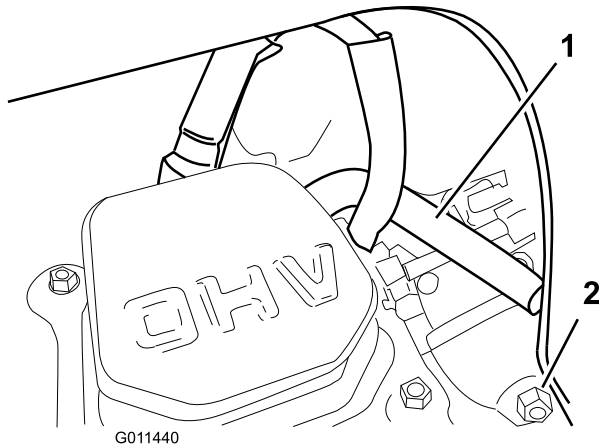

Figure 36
Note: Ensure that the breather tube is routed above the spark-plug wire as shown in Figure 36.
6. Drain the fuel in the carburetor through the carburetor drain bolt (Figure 36) into an approved gasoline container.